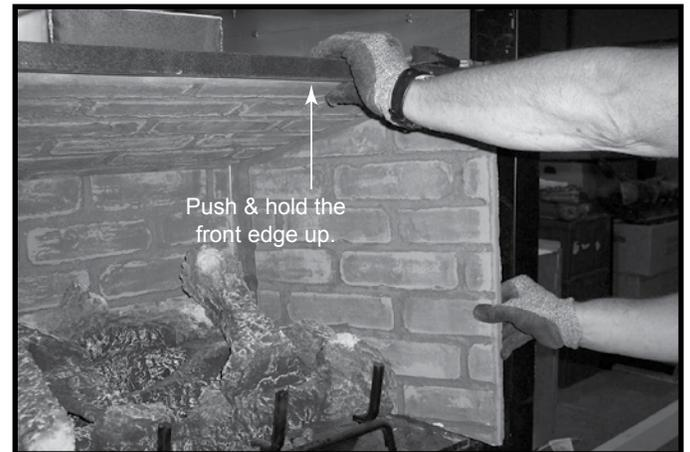

Figure 7.9 Remove One Side Refractory
Note: If installing a vertical vent/termination off the top of the appliance, the flue restrictor should be used. See Figure 7.9.
3. Remove the right or left side refractory (only one side must be removed) by gently raising the front of the top refractory and lifting the side piece up slightly and pulling out. See Figure 7.9.